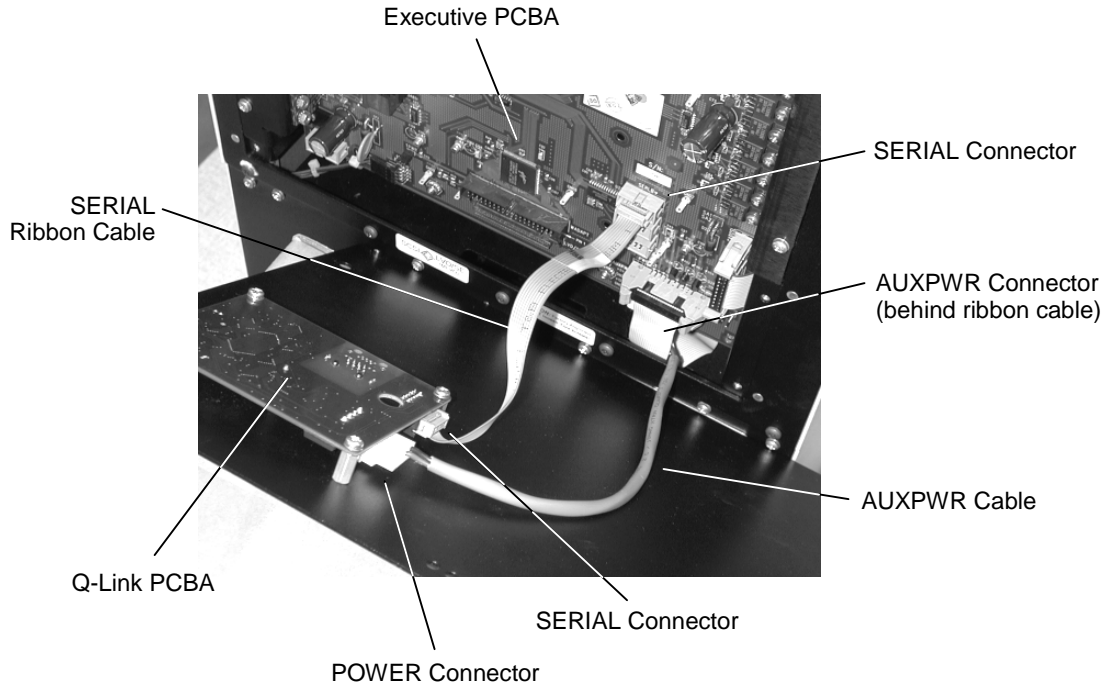

Figure 7-47 Detail of AUXPWR and SERIAL Cable Connections on Q-Link PCBA
3. Disconnect the AUPWR cable from the POWER connector on the Q-Link PCBA as shown in Figure 7-47.
4. Disconnect the SERIAL ribbon cable from the SERIAL connector on the Q-Link PCBA as shown in Figure 7-47.
1. Connect the AUPWR cable to the POWER connector on the Q-Link PCBA as shown in Figure 7-47.
2. Connect the SERIAL ribbon cable to the SERIAL connector on the Q-Link PCBA as shown in Figure 7-47. Make sure that the colored edge of the ribbon cable faces to your right side when the cable is installed.